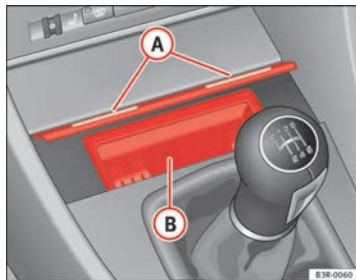

Fig. 133 Centre console:
- Lightly press the front part of the ashtray **(A)** ⇒ fig. 133.
- Take hold of the sides of the ashtray **(B)** ⇒ fig. 133 and lift it out.